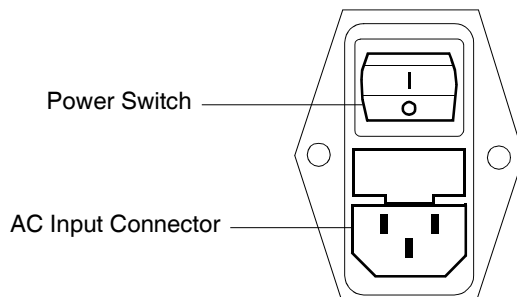

Figure 4-14 Removing the Fuse Holder
2. Remove the fuse holder from the rear panel of the 2465 Detector (Figure 4-14).